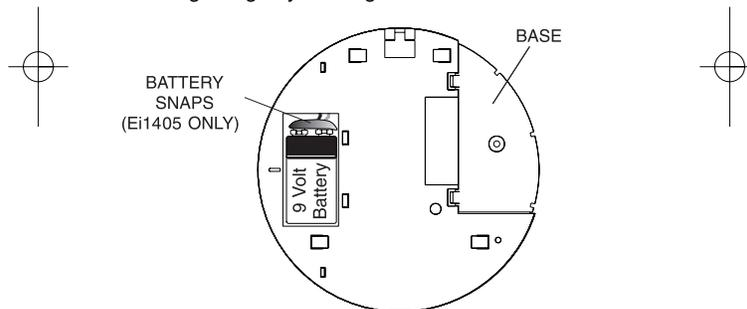

Figure 1a : Attaching battery to the battery snap on Ei405
- § Model Ei405 - connect battery snaps firmly (see figure 1a). Press the test button and horn should sound.
5. Connect the battery to the battery snaps as shown in figure 1a (model Ei405 only).